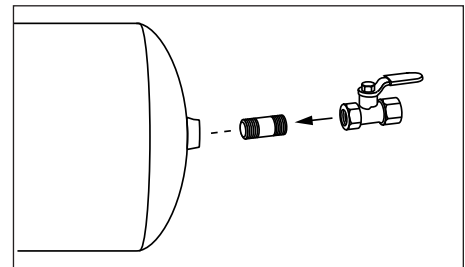

Figure 4 - Shut-off Valve
1. Close shut-off valve. See Figure 4.